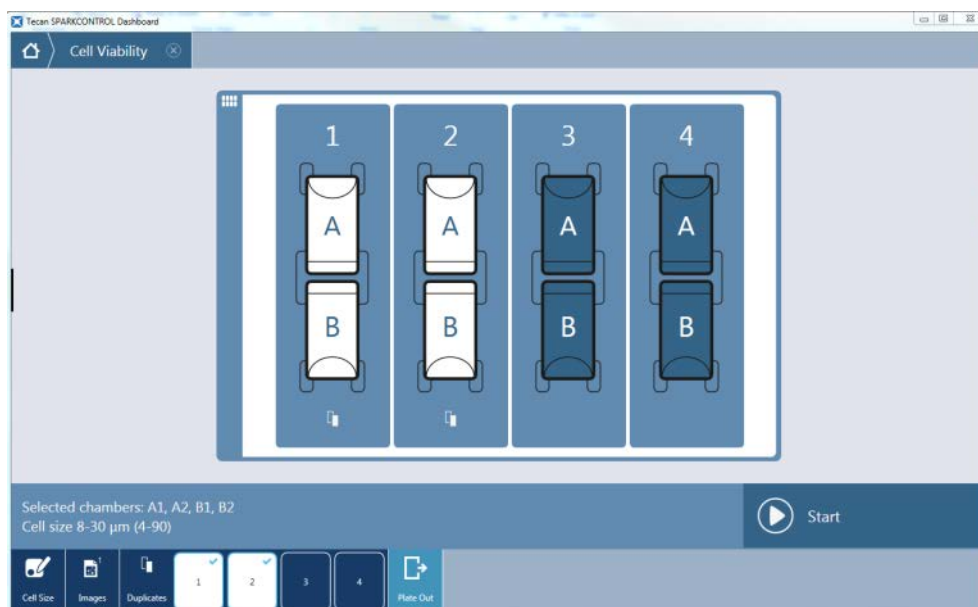

Figure 105: Cell Viability start window
1. Select the **Cell Viability** application tile and the start window appears (Figure 105: Cell Viability start window).